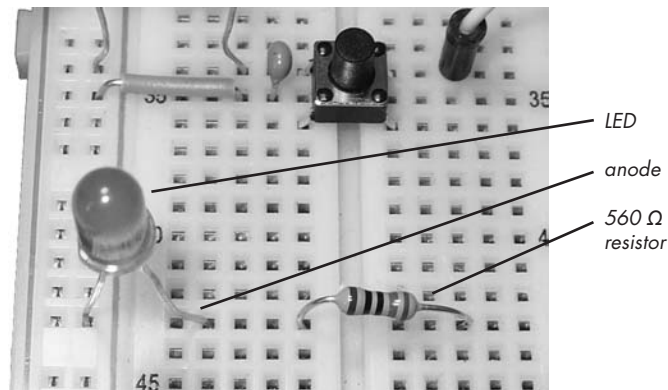

Figure 4-24: Inserting the LED and 560  $\Omega$  resistor
5. Insert the LED into the breadboard with the short leg (the cathode) connected to the GND column, and the long leg (the anode) in a row to the right. Next, connect the 560  $\Omega$  resistor to the right of the LED, as shown in Figure 4-24.